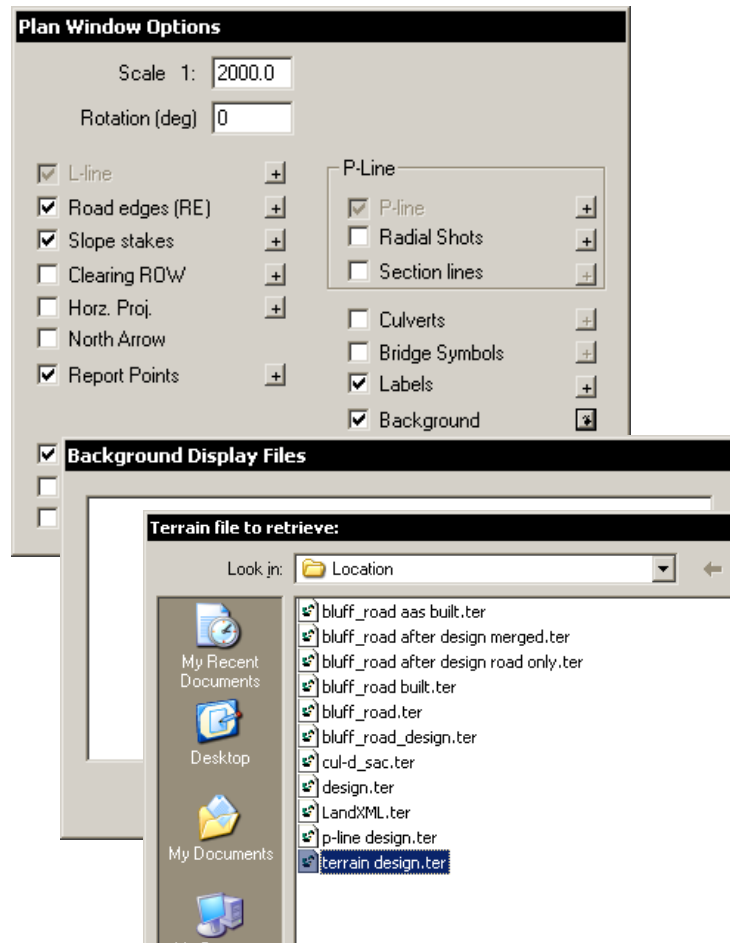

Figure 4.0: Adding a Terrain Background to the Plan Window
3. Click on the  button beside the *Background* check box then click the *Add* button. Choose \RoadEng\Tutorial\Location\terrain design.TER (see Figure 4.0) Press *Open*, then *OK* and *OK* a second time to load the background image.